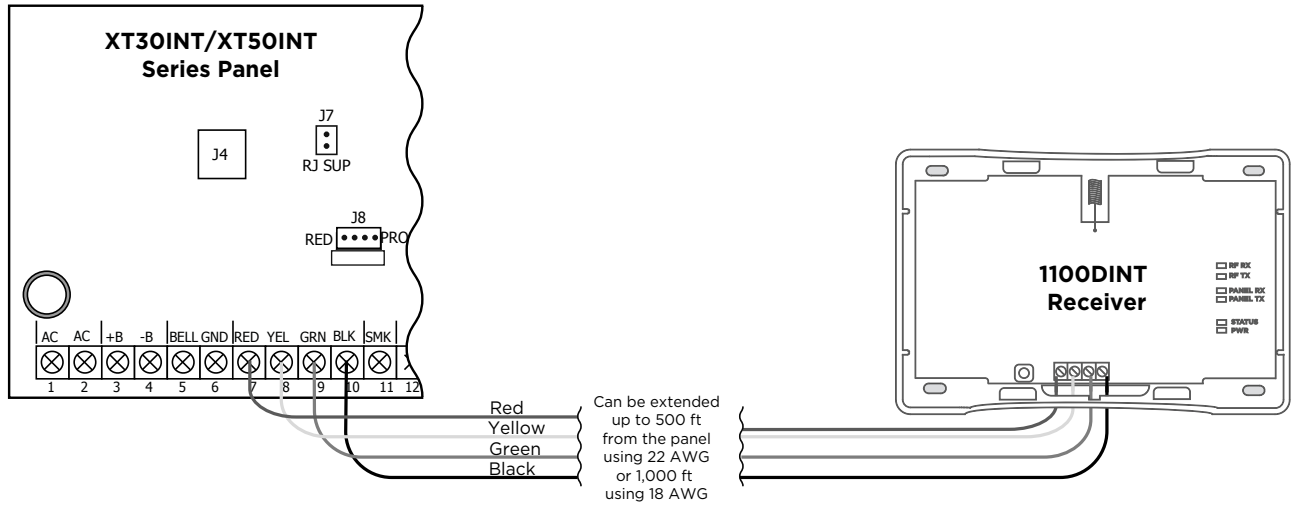

Figure 3: Wiring The 1100DINT to the Panel
1. Connect the red, yellow, green, and black wires to the **PANEL** terminal on the receiver and connect the other ends to the 7, 8, 9, and 10 terminals on the panel. See Figure 3.